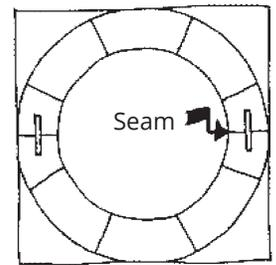

Figure 10
3. Caulk the area where the shaft and base meet. Then position halves of shaft on the base so that seams are oriented at a 90-degree angle to the primary view (Fig. 10), leaving a gap between them for gluing.